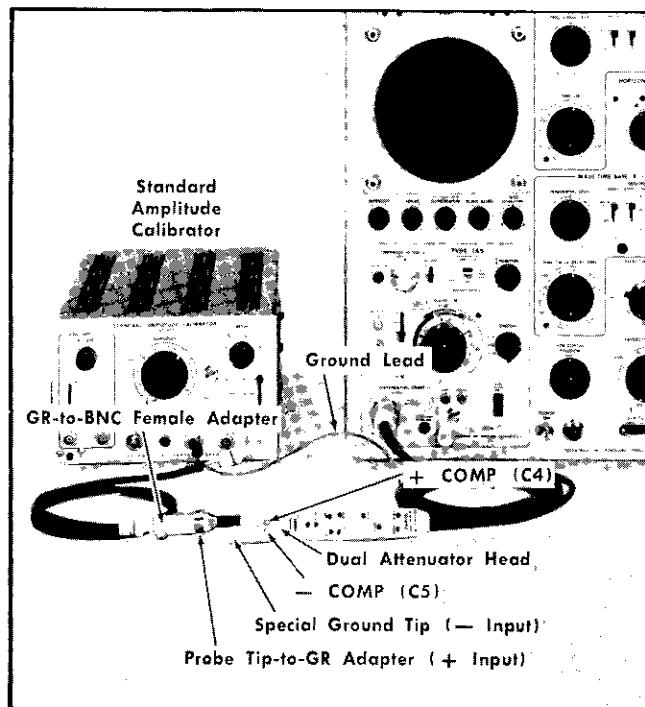

Fig. 6-19. Equipment setup for Dual Attenuator Head AC compensation, step 11.
a. Preliminary control settings apply. The equipment setup and adjustment locations appear in Fig. 6-19.
i. ADJUST—+ COMP (Fig. 6-19) for optimum squareness at the upper left corner of the square wave.  $\pm 0.1$  div or less rounding, overshoot or tilt.
l. ADJUST—Attenuator — COMP (Fig. 6-19) for optimum squareness at the lower left corner of the square wave.  $\pm 0.1$  div or less rounding, overshoot or tilt.